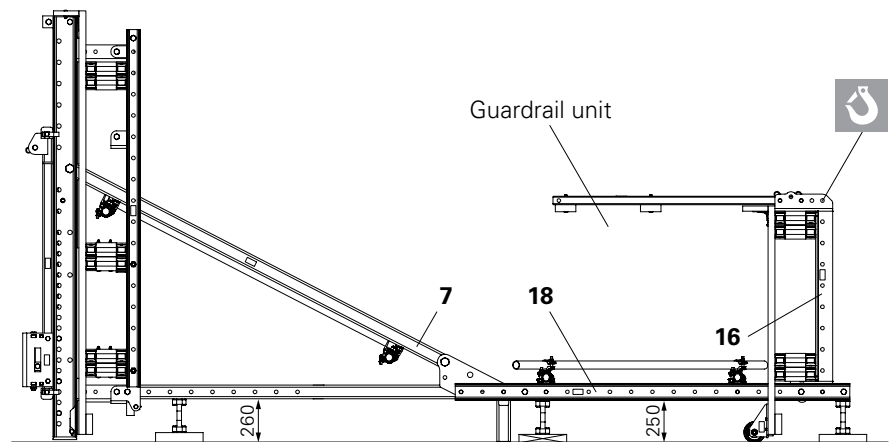

Fig. B7.05
6. Lower the finishing platform first and place the bracket unit forward on the dismantling support (260 mm / 250 mm). (Fig. B7.05)
(Fig. B7.05)